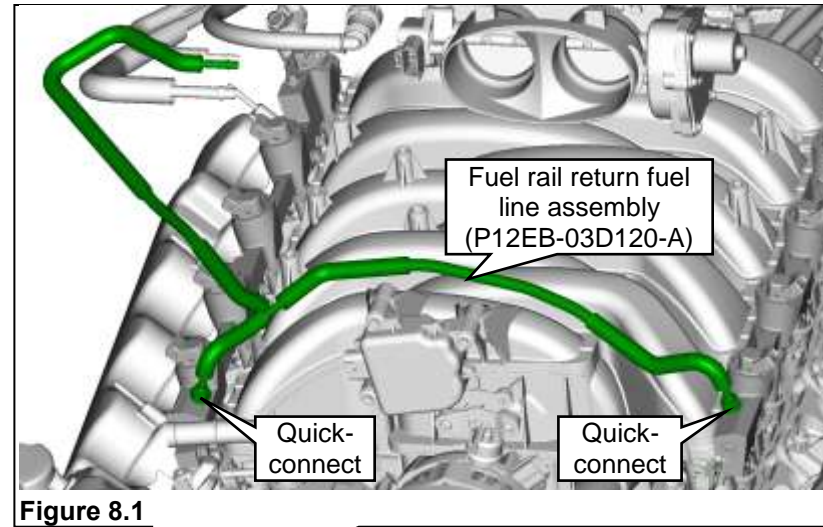

Figure 8.1
6. Orient and install fuel rail return line assembly onto forward ends of fuel rails. Push to connect fittings. **Figure 8.1.**